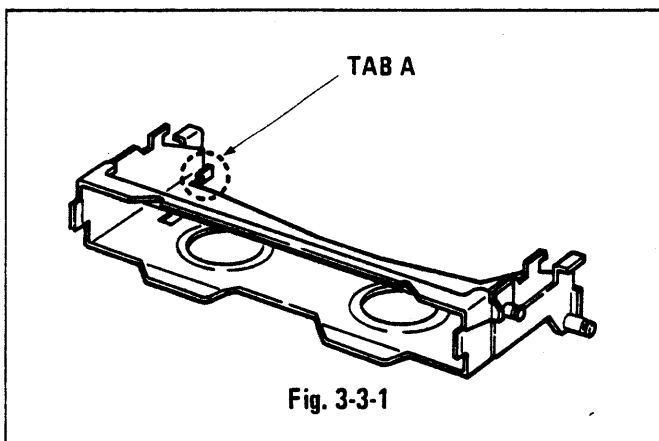

Fig. 3-3-1
(See Figs. 3-3-1 ~ 3-3-3.)
If the power is turned on [if the power switch is set to the "ON" position] and a video cassette is inserted into the cassette holder, the lock on the cassette tape lid is released by the tab (A) in the cassette holder. (See Fig. 3-3-1.)